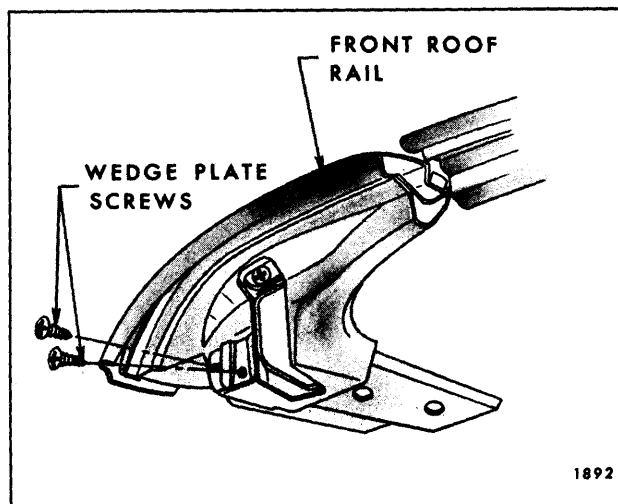

Fig. 13-85—Front Roof Rail Wedge Plate - "Z" Styles
2. Remove wedge plate by removing inboard and outboard attaching screws (Fig. 13-85).